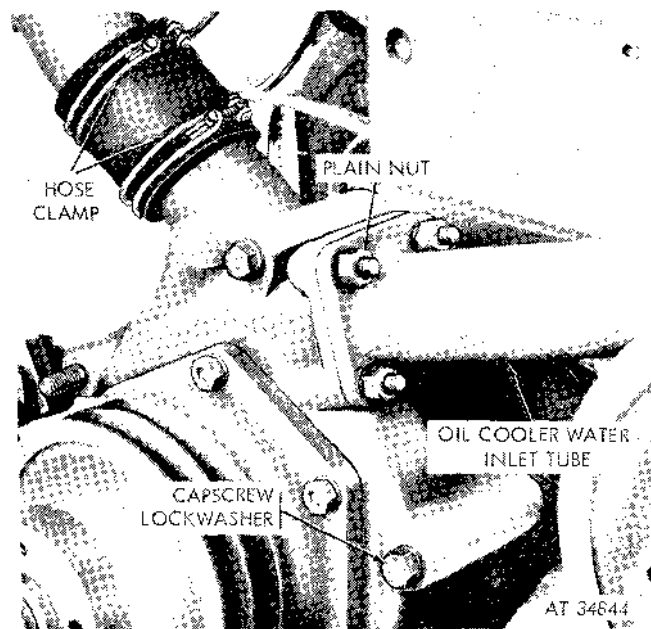

Figure 2-141. Water pump—multifuel engine.
(1) Remove the fan and drive belts (para 2-112).
(2) Loosen the two hose clamps securing the bypass hose between the water pump and thermostat, and slide the hose up on the thermostat housing until the hose is free from the water pump (fig. 2-141).
(4) Remove the three capscrews and lockwashers securing the water pump. Remove the water pump from the engine (fig. 2-141).
(1) Install the water pump on the engine, and secure it with three capscrews and lockwashers (fig. 2-141).
(2) Position the oil cooler water inlet tube to the water pump, and secure it with four plain nuts and lockwashers (fig. 2-141).
(3) Position the bypass hose between the water pump and the thermostat, and secure it by tightening the two hose clamps.
(4) Install the fan and drive belts (para 2-112).